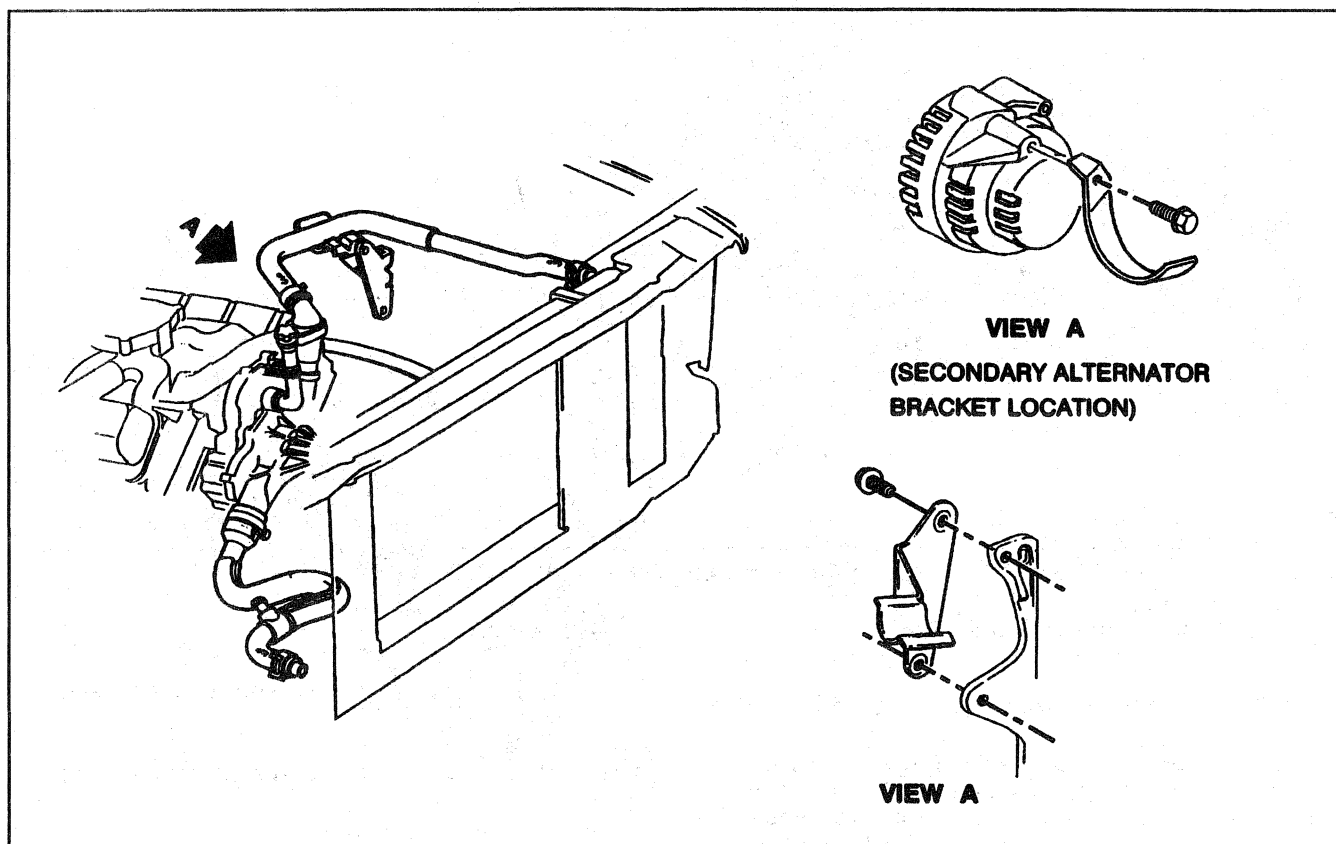

Figure 19—Radiator and Hoses (Diesel Engines)
**↔ Remove or Disconnect (Figure 19)**
**↔ Install or Connect (Figure 19)**